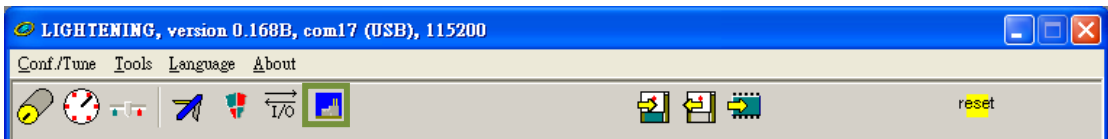

Figure14.2.1
Step 1: To open **PDL** window, click on the icon (🖨️) indicated in figure 14.2.1.